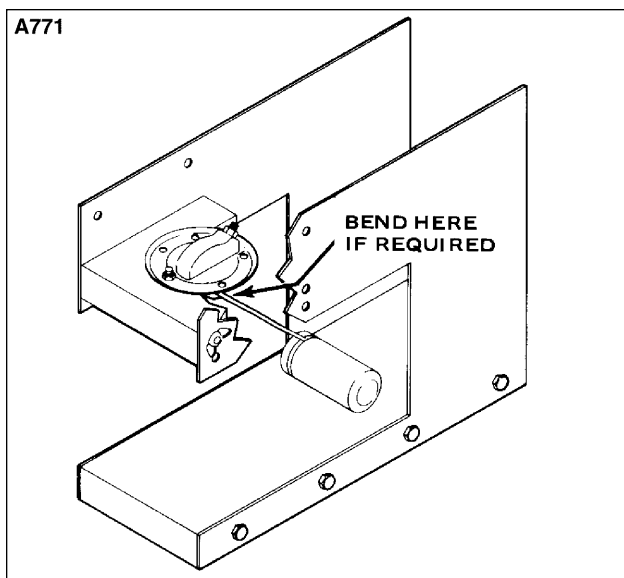

Figure 9-12. Checking Fuel Quantity Sender
2. Secure the sender in the appropriate position on the fabricated jig as shown in Figure 9-12. (Fabricate the jig from dimensions given in Figure 9-28.)
3. With the float arm against the bottom stop, the float should be just touching the base of the jig. If the float arm is not touching the base of the jig or the bottom stop, adjust the float by bending the arm at a position shown in Figure 9-12.